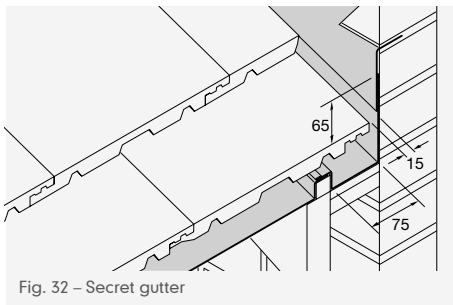

Fig. 32 – Secret gutter
- 11 Lay tiles to leave a gap of 15mm by the side of abutment (Figs. 32 and 33).